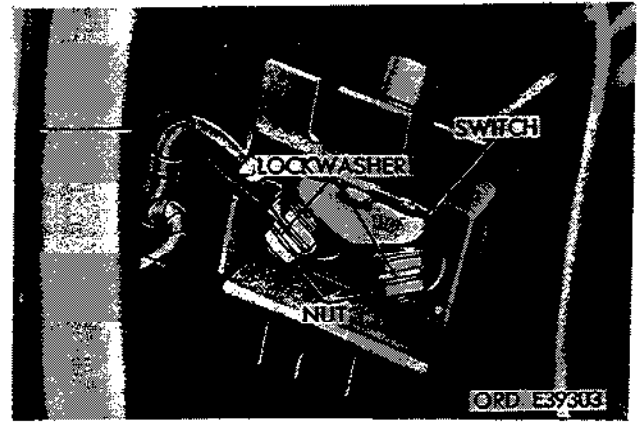
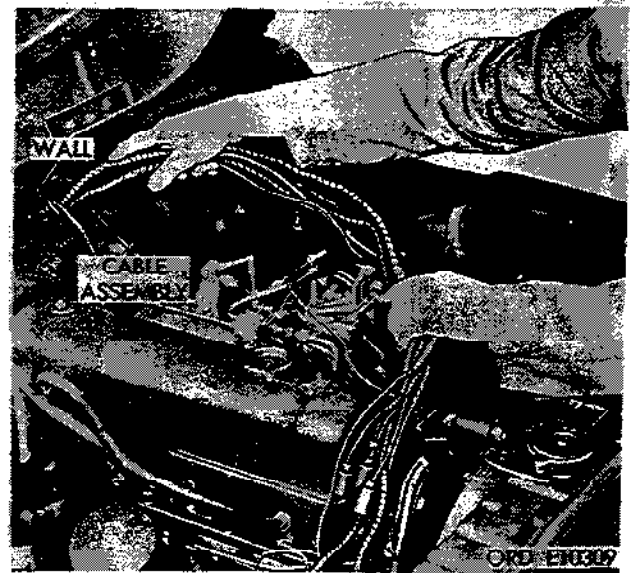

Figure 2-244. Remove electrical connectors from starter switch.
Figure 2-245. Push front harness assembly through hole in firewall.
(30) Pull starter switch away from floor. Remove two nuts and lockwashers securing electrical connectors (see fig. 2-244).
(31) Remove connectors at end of harness assembly.
(32) Push front harness assembly through hole in firewall (see fig. 2-245).